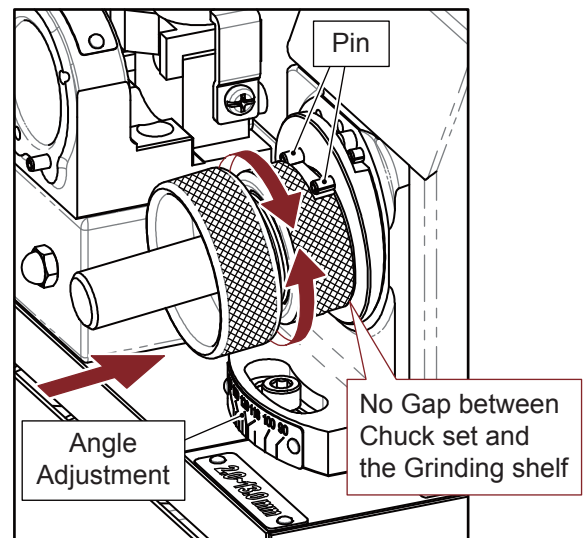
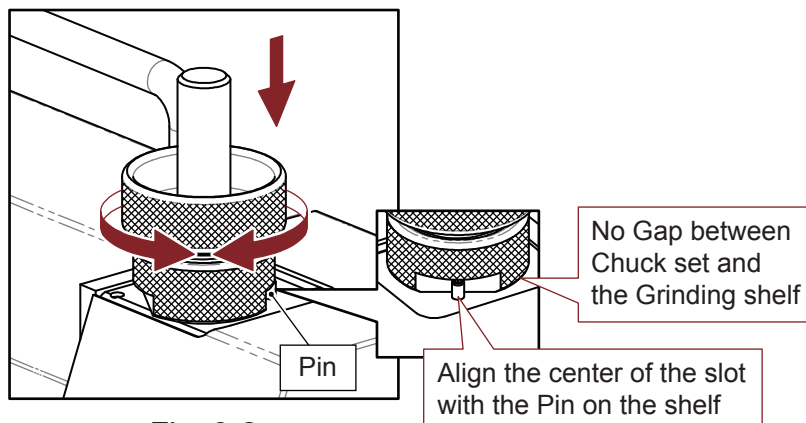
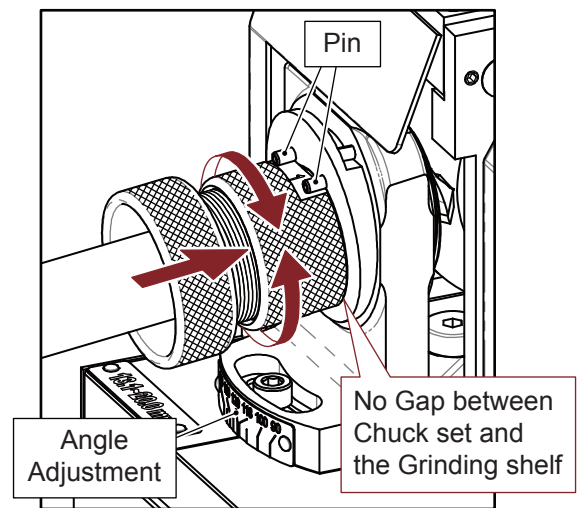
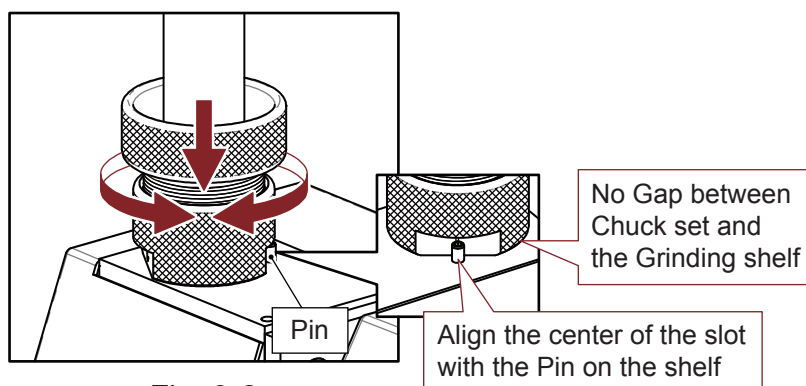

Fig. 8-1
Fig. 8-2
Fig. 9-1
Fig. 9-2
### 1. Cutting Lip Grinding (Fig. 8-1)
### 2. Web Thinning Grinding (Fig. 8-2)
### 1. Cutting Lip Grinding (Fig. 9-1)
### 2. Web Thinning Grinding (Fig. 9-2)
- ① Check the condition of position block. Please contact with your agent for replacement.
- ② While operating, check chuck set is tightly connect to any of the grinding shelf without gap. (See page 13, Fig 8-1 and Fig 8-2 ; page 14, Fig 9-1 and Fig 9-2)
- ③ Check the drill is fastened tightly by chuck set. (See page 11 “3. Drill Positioning”)
- ④ Check the point angle of the drill complies with the point angle adjustment set.
- ① Check the clearance of chuck set (collet / collet holder / clamping nuts).
- ② Check the drill, Helix of a drill has burr or damaged, the parts should be cut off.
- ③ Check the drill; it can not be used when the drill is deformed.
- ④ While grinding, do not apply too much pressure to the shelf.
- ⑤ Check the screw of point angle adjustment set is fastened enough.
- ⑥ Check the contact surface of grinding shelf and chuck set that is clean without scraps.
- ⑦ Check the margin of the drill, damaged margin should be cut off.
- ⑧ While grinding, make sure to fully turn the chuck set to the right and left.
- ① For grinding the web thickness of a drill, when inserting or taking out the chuck set from web thinning shelf, make sure the pin is in the middle of the slot. (See page 13, Fig 8-2 ; page 14, Fig 9-2)
- ② While changing grinding wheel, the flange and the center hole of grinding wheel should be kept clean.
- ③ Make sure the flank of a drill is sharpened completely, uncompleted grinding will cause problem for chisel.
- ④ While grinding, turn the chuck set clockwise and counterclockwise to the end on the grinding shelf.
- ⑤ Check the clearance of chuck set.
- ⑥ Check the clearance of web thinning shelf.
- ⑦ While grinding, do not use too over forcing power to push.
- ⑧ Check the condition of the drill, if the drill is deformed, it can't be used.
- ⑨ Check the drill, Helix of a drill has burr or damaged, the part should be cut off.